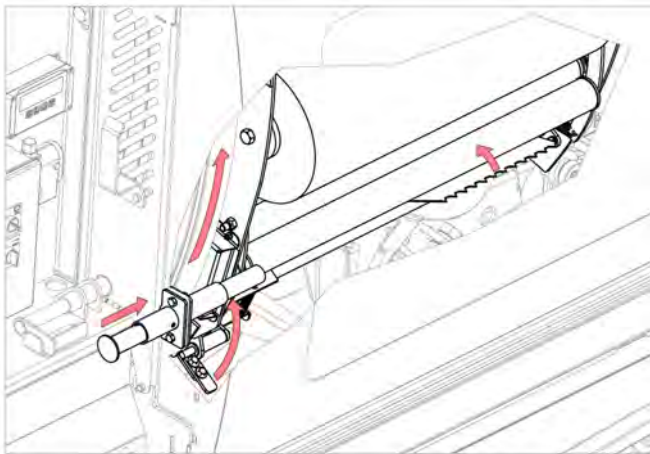

Fig.2
6. Cut plastic film by pressing and holding the film snap while rotating the hoop. See Fig.2.